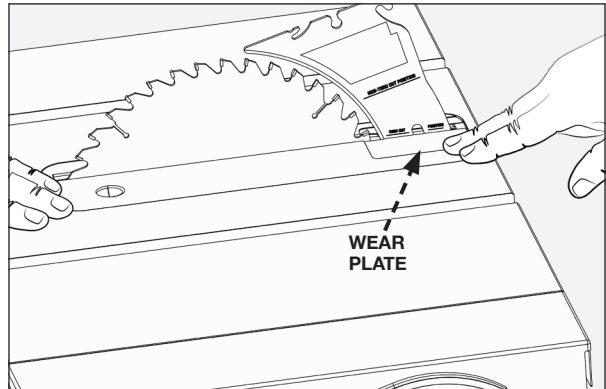

FIGURE 15
Insert the rear tab of the throat plate (G) (the end with the wear plates) under the surface of the table, and snap the front end in place (Fig. 15).
Check that the throat plate is properly adjusted to the table. Front of throat plate should be level or slightly below the surface of the table and rear of the throat plate should be level or slightly above the surface of the table (Fig. 15).